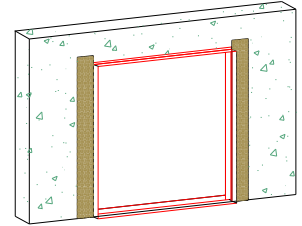

Figure 11
- B. At each jamb, embed the flashing paper into the sealant on the mounting flange and fasten into place. The flashing paper should be cut sufficiently long enough to extend at least 3 in. past the weep-screed or diado flashing and at last 6 inches above the head of the door. (See fig. 11)